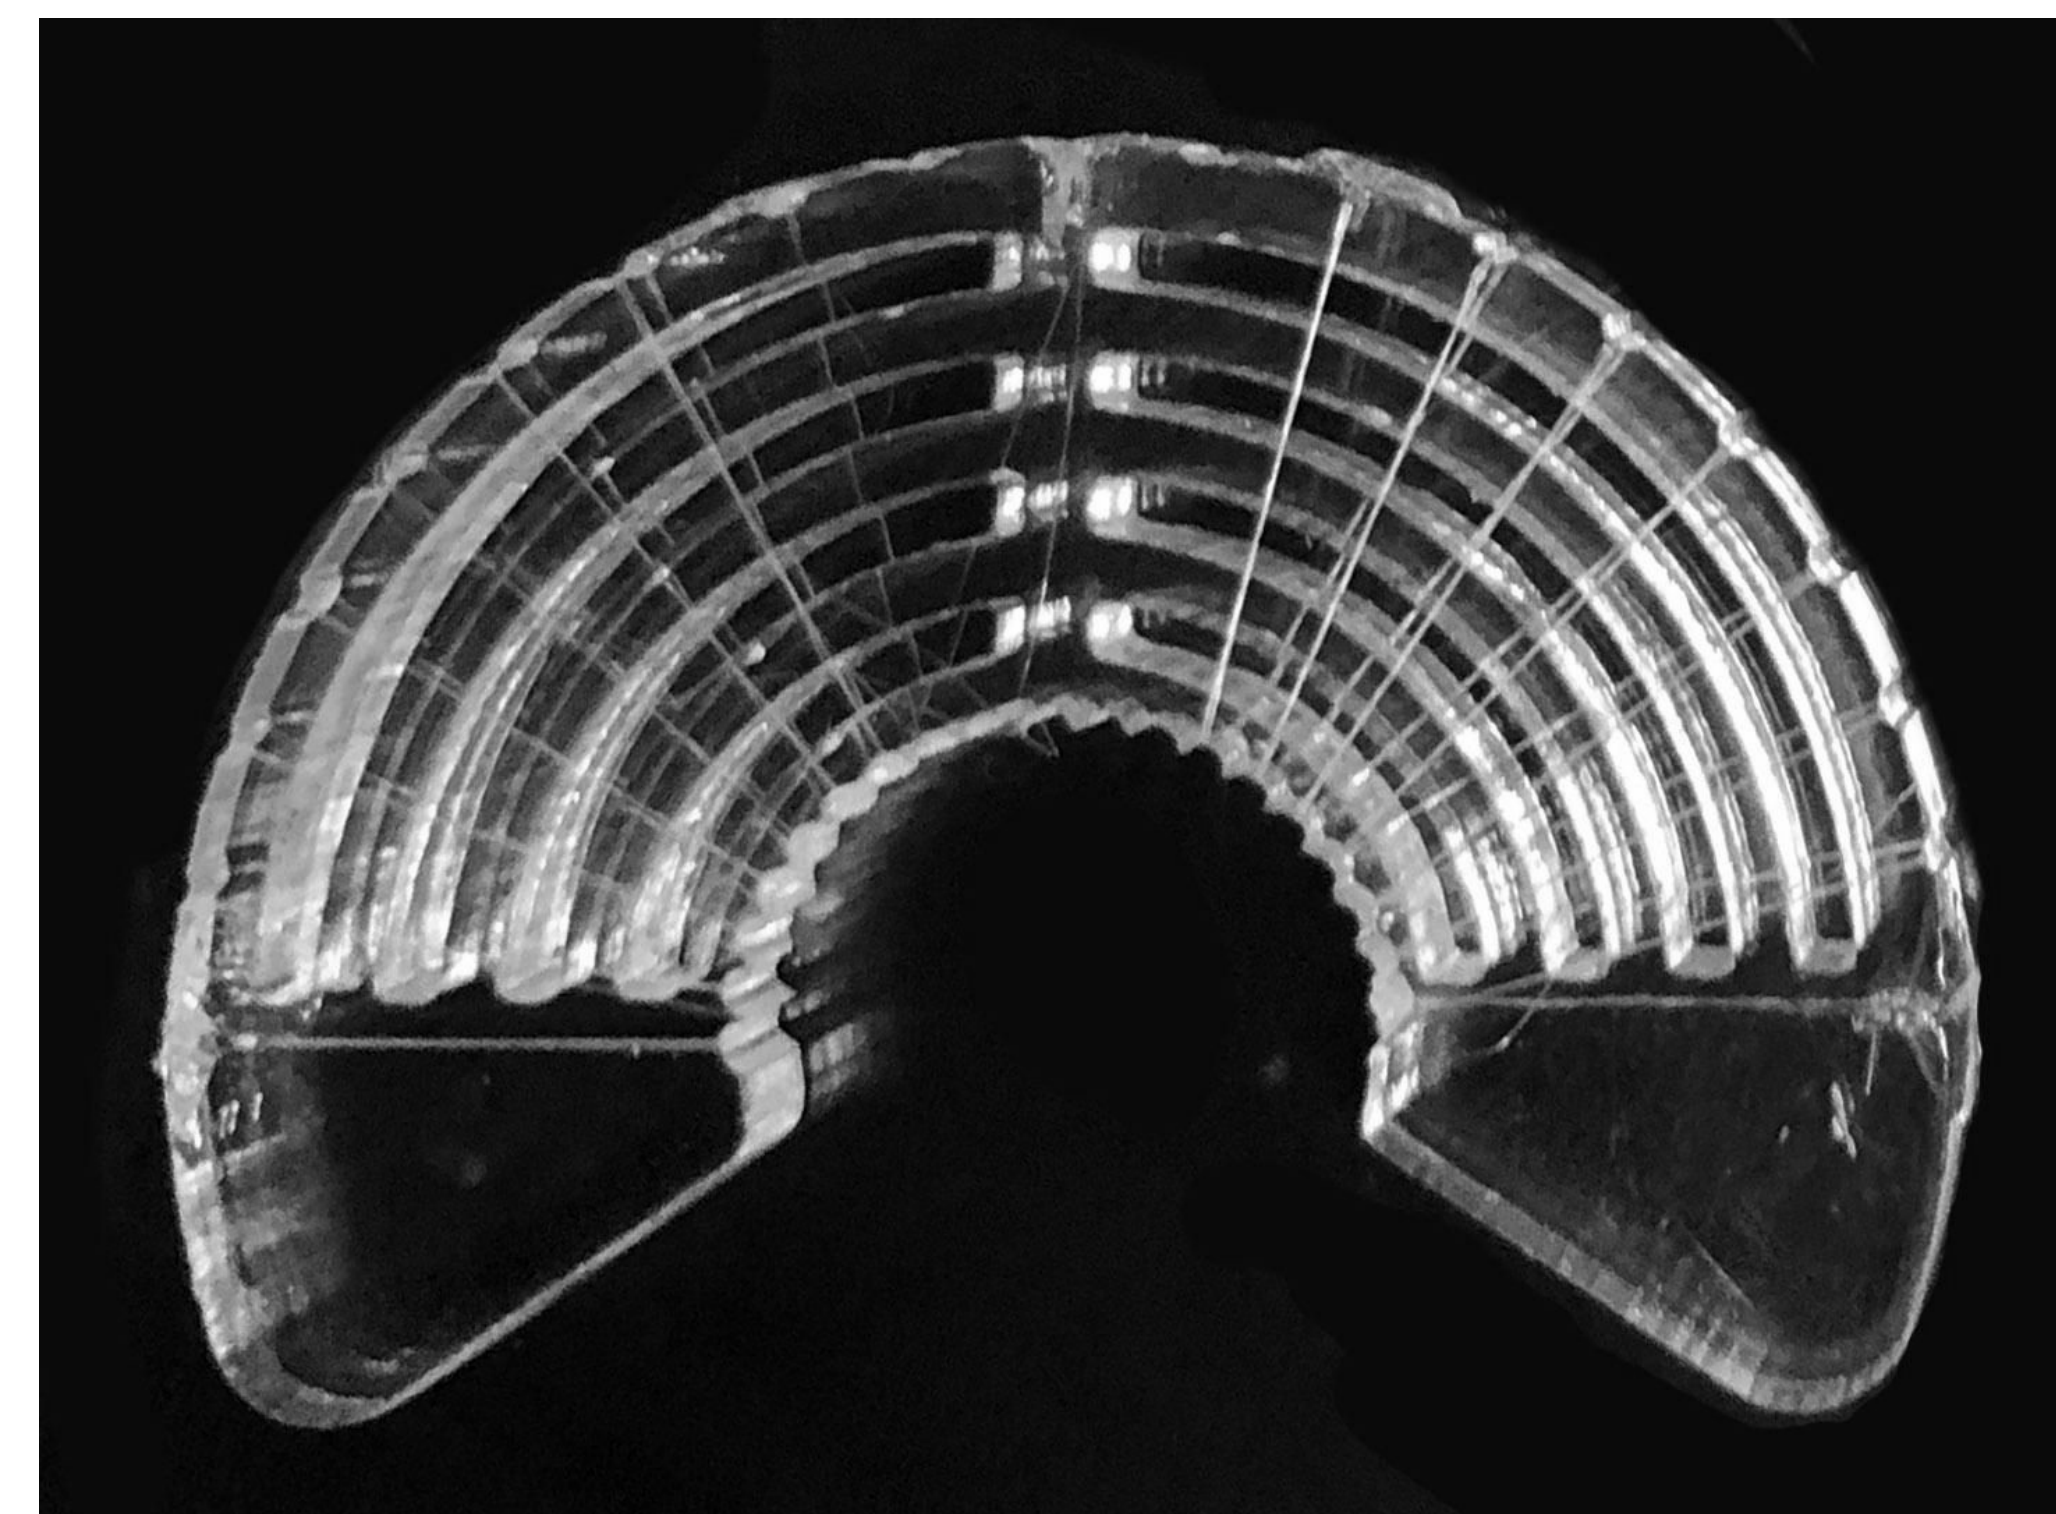

Figure 2 - 6-fiber bundles of hagfish protein thread wound around an acrylic chassis
- Suspended on acrylic chassis (Fig 2).